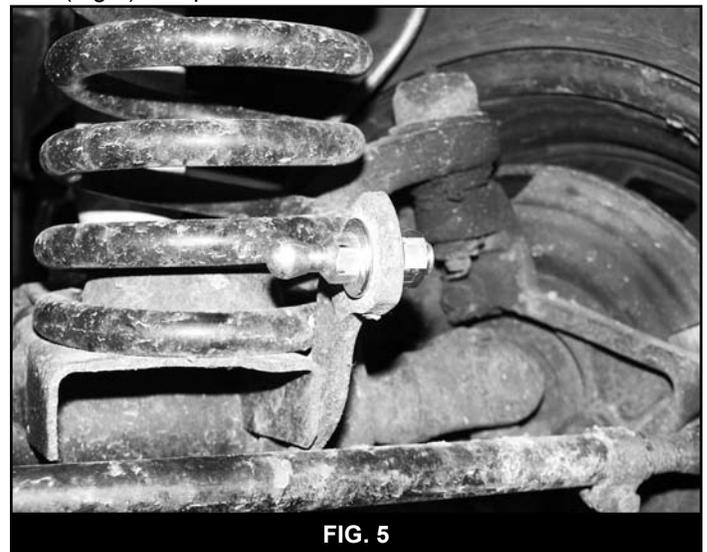

FIG. 5
36. Install the new lower ball stud to the OE sway bar link axle mount with a 1/2" nut and two 1/2" SAE washers provided. The washers mount on each side of the OE mount. The ball mounts toward the inside of the vehicle (Fig 5). Torque the stud to 60 ft-lbs.